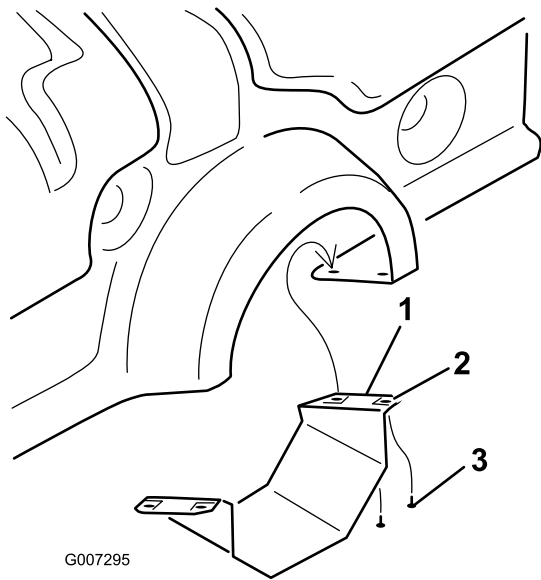

Figure 10
- On the ProCore 864 only, remove the lower PTO shield (Figure 10).